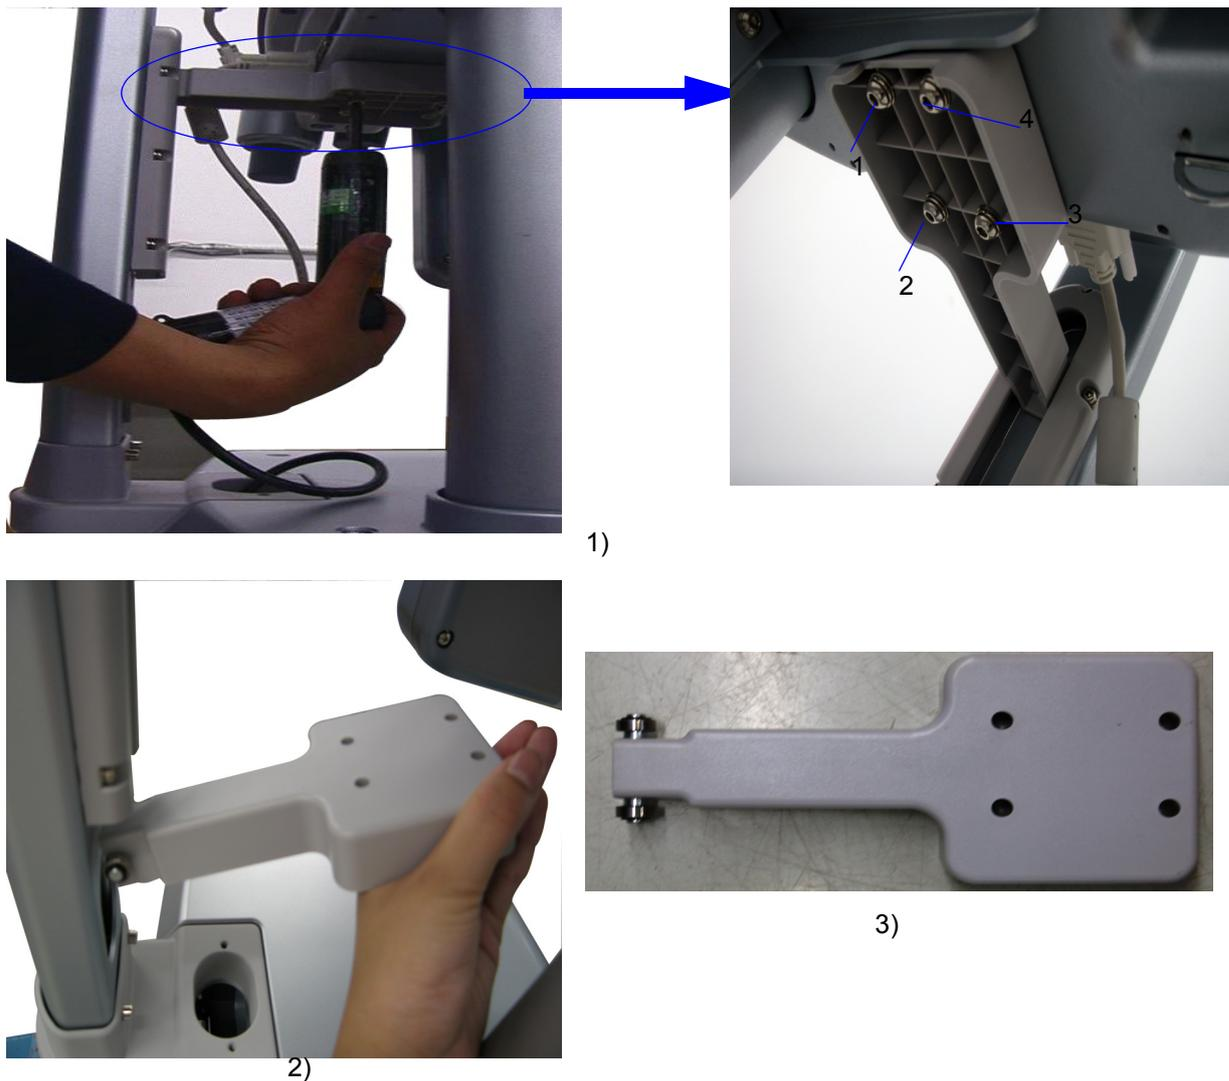

Figure 8-3 Arm Support Assy Disassembly
- 1.) Unscrew 4 screws [M6X30] at the bottom of the arm support, refer to the Figure 8-3 on page 9 .
- 2.) Pull it from the track of the monitor support arm, refer to the Figure 8-3 on page 9 .
- 3.) Arm support assy removed, refer to Figure 8-3 on page 9 .